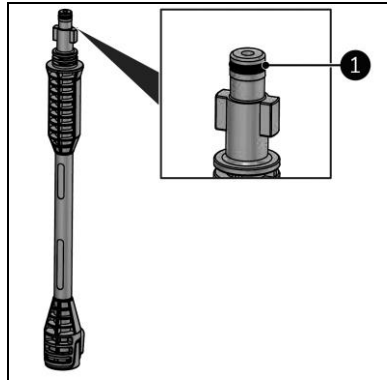

Figure 18
6. Apply Vaseline to the O-ring of the lance extension (Figure 18, pos. 1).